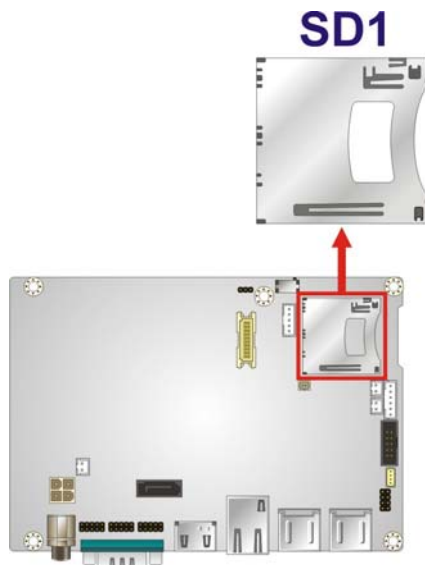

Figure 3-13: SD Card Slot Location
- CN Location:** See **Figure 3-13**